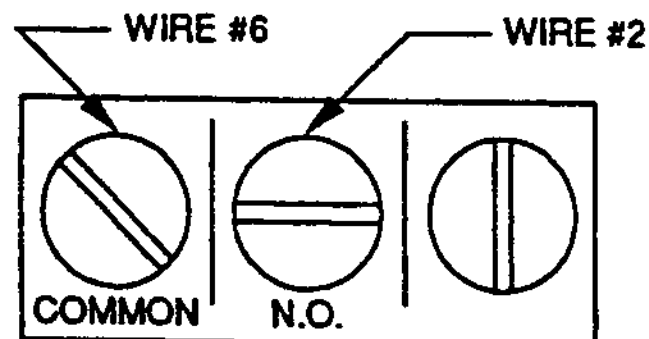

Fig. 2
2. Vertically Mounted (Fig. 2).